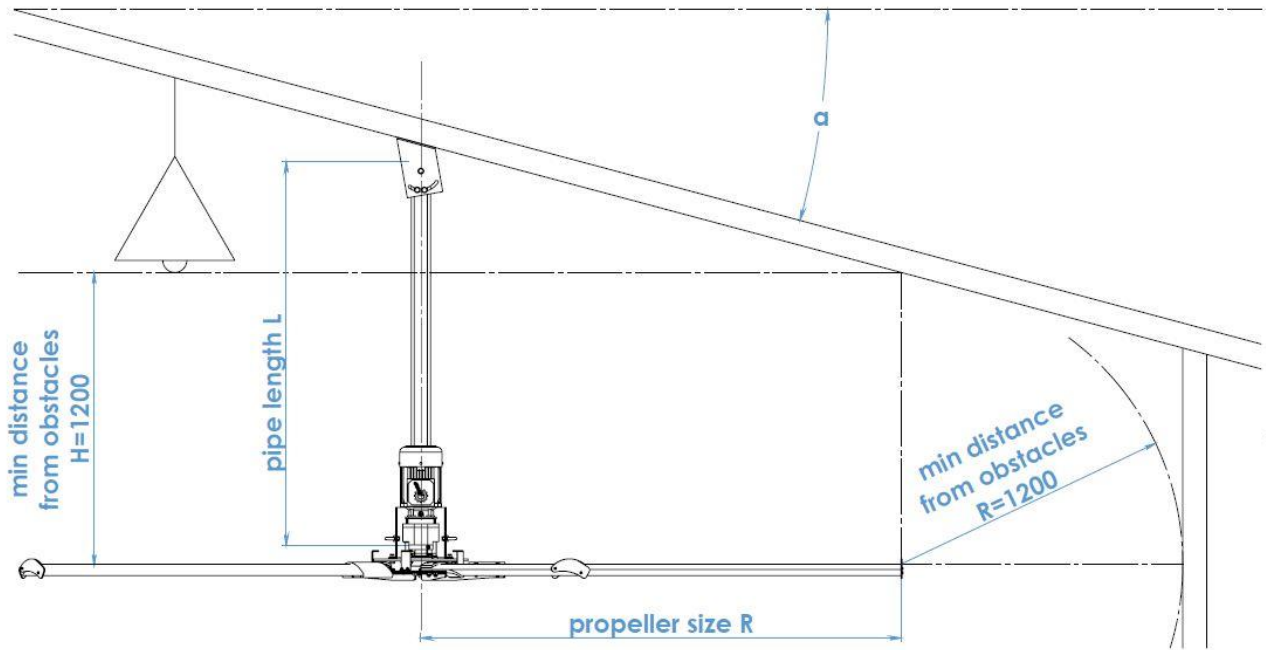

Fig.7
- regarding the fan minimum spacing please see Fig.7 on chapter 5.4